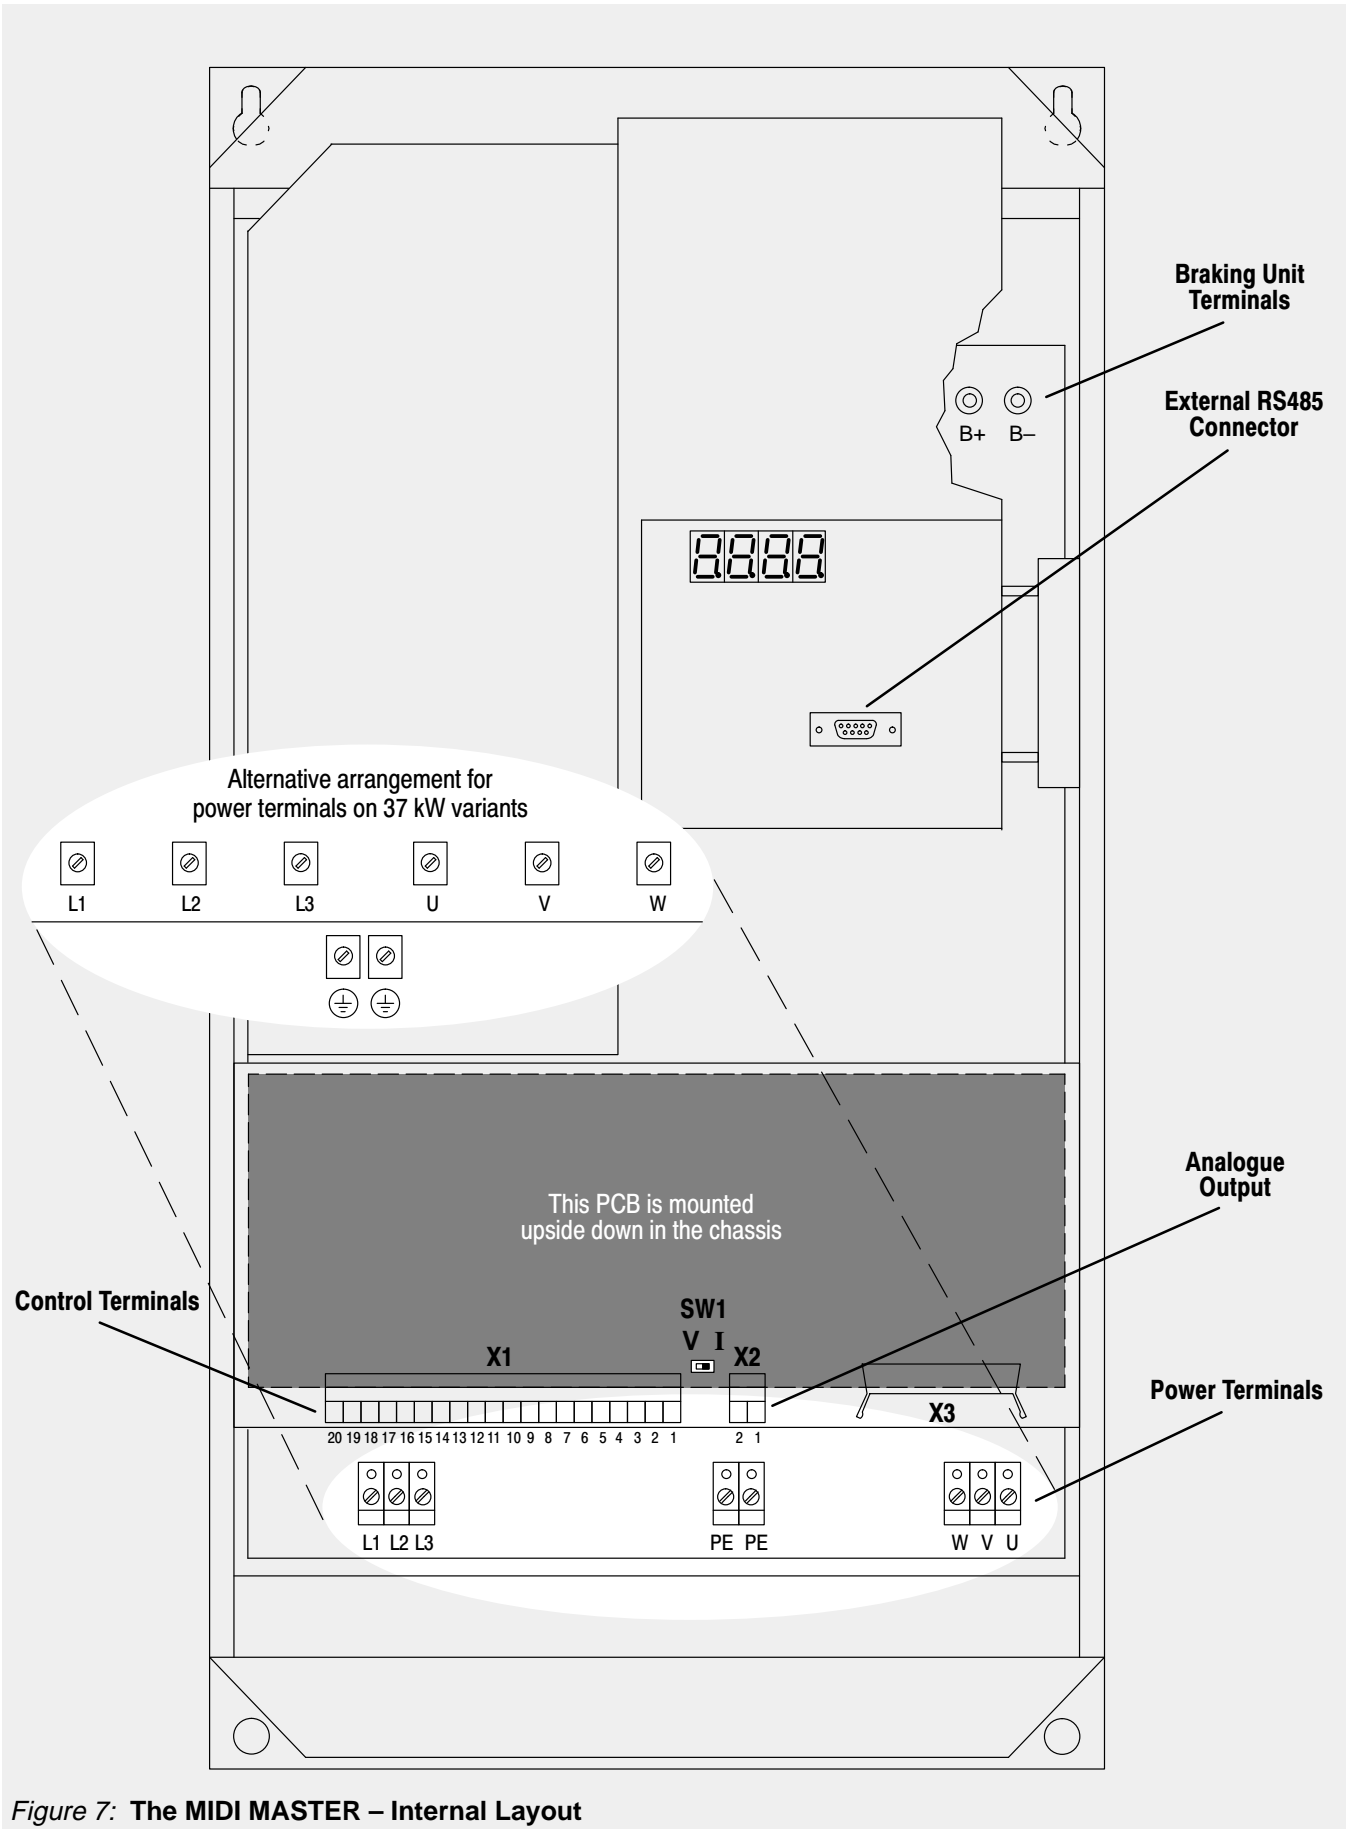

Figure 7: The MIDI MASTER – Internal Layout
The cover must be removed to connect the electrical leads. The cover on the MIDI MASTER is attached to the heatsink by five or seven M4 screws, depending on the variant. Two or three screws are located on the left and right-hand sides of the cover and there is a single central screw located below the STOP button (see Figure 10). Remove each of the screws and then lift off the cover. The electrical terminals are now exposed (see Figure 7).
Switch SW1 selects between voltage (V) and current (I) analogue inputs. This switch can only be accessed while the cover is removed (see Figure 4 (MICRO MASTER) or Figure 7 (MIDI MASTER) for location).